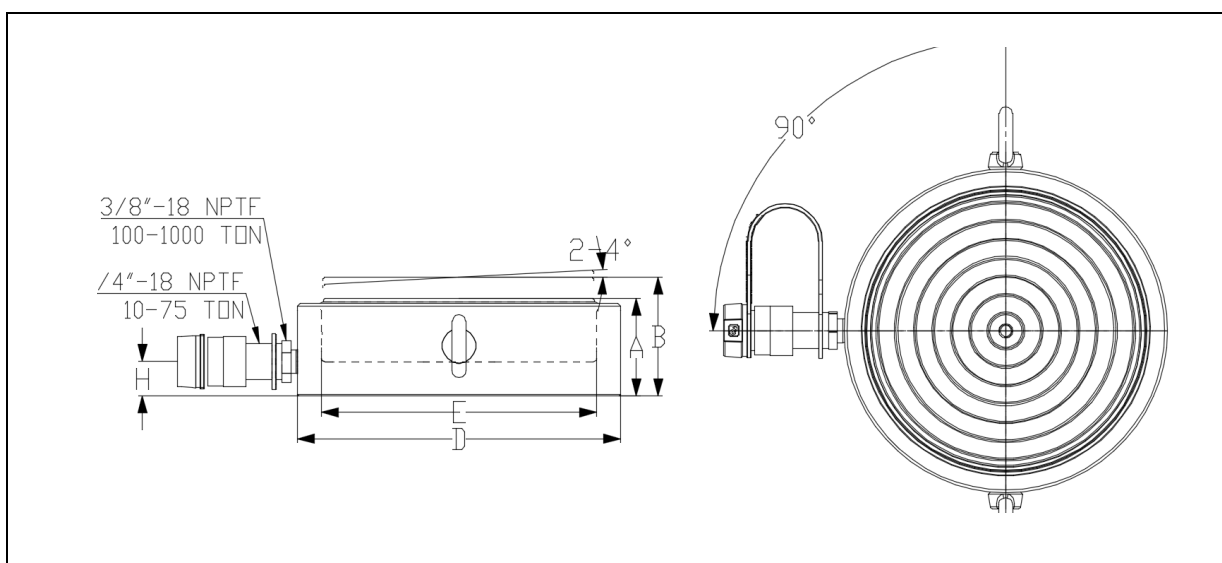

Figure 6, Dimensions – CUSP-Series
11.1 Dimensions – Imperial (see Figure 6)
11.2 Dimensions – Metric (see Figure 6)